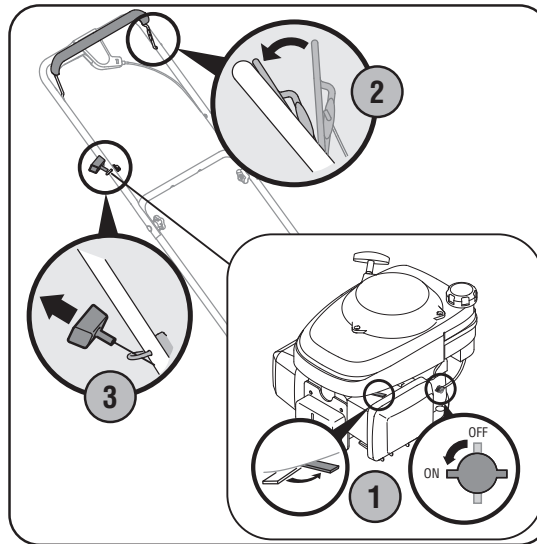

Figure 4-2
1. Place the fuel valve lever found on the left side of the engine into the ON (OPEN) position, Figure 4-2.
3. Standing behind the mower, squeeze the blade control against upper handle, Figure 4-2. The choke will now begin to slowly return to the off choke position after activating the blade control. Therefore, quickly move onto step four below.